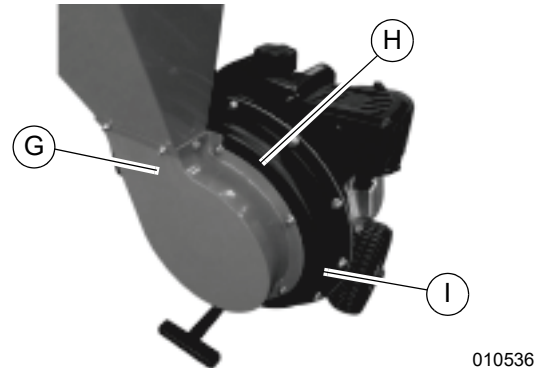

Figure 2-6. Positioning Hammermill Housing/Shredder Hopper Assembly on Flywheel Housing
4. See Figure 2-6. Position hammermill housing/shredder hopper assembly (G) onto the studs of flywheel housing (H).